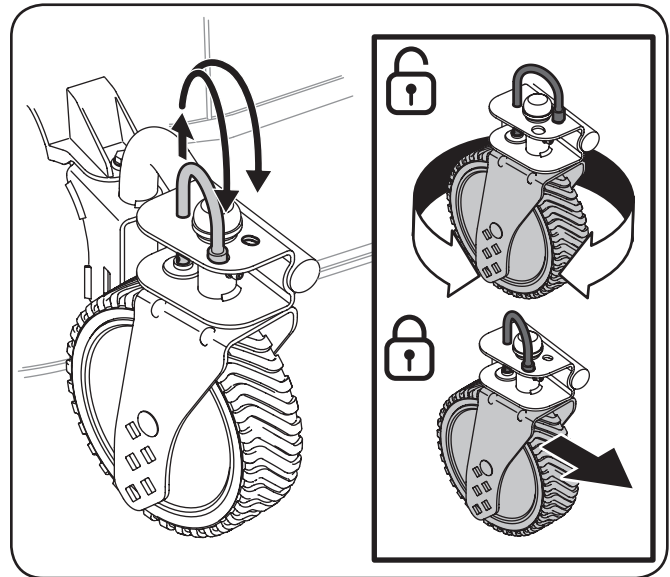

Figure 4-5
1. Pull up on the locking rod, as shown in Figure 4-5.
2. Move the locking rod outward to and align with the hole provided to lock the wheels in a straight ahead position. See Figure 4-5.